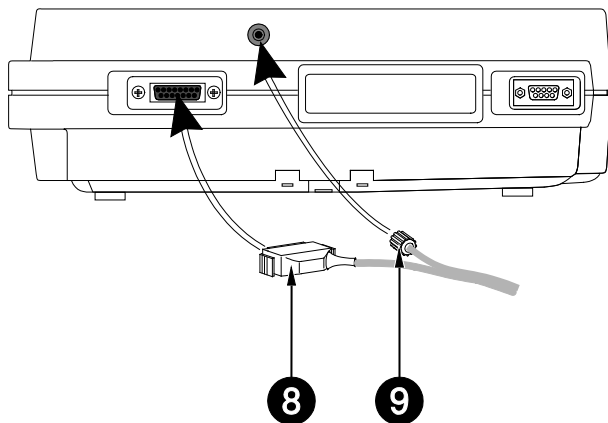

Figure 3-1. Connecting the application system to a MAC 1200 with integrated suction pump
When using an electrocardiograph or the signal acquisition module with integrated suction pump, all you have to do is plug in the patient cable connector (8) and connect the suction pump (9) (e.g. MAC 1200, Figure 3-1).